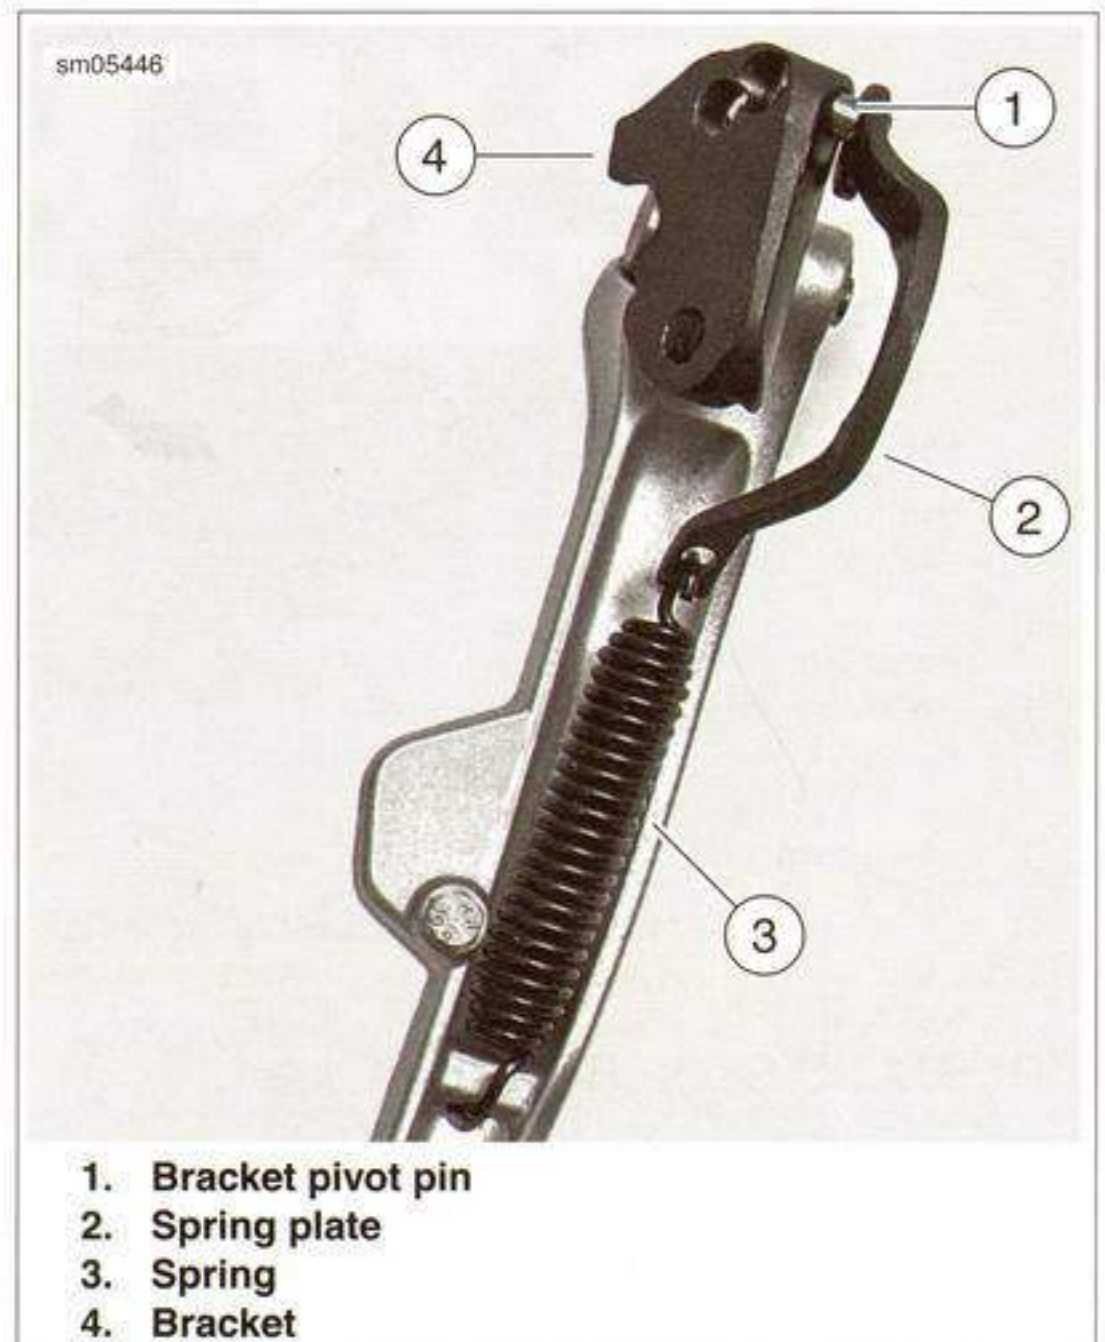

Figure 2-170. Sidestand Assembly
3. See Figure 2-170. Disassemble the sidestand leg, bushings, spring, spring plate and bracket pivot.